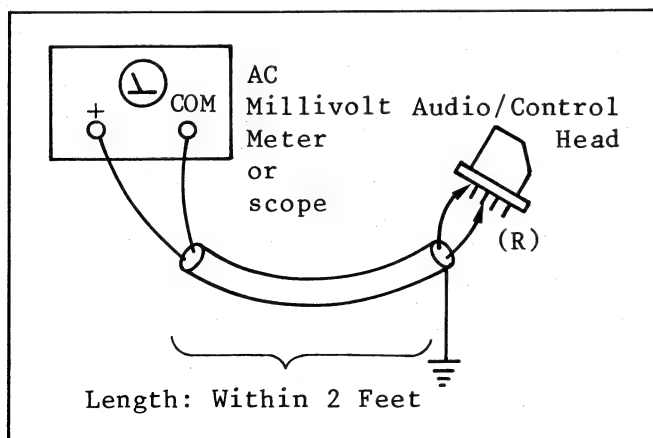

Fig. E11
5. Change the connected point of the AC Millivolt Meter or scope as shown in Fig. E11.